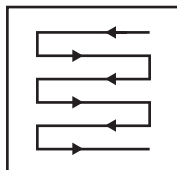

Fig. 21
5. Mow in slight overlapping rows. The most effective pattern for mowing lawns is straight lines along one of the sides. This will keep the rows even and ensures that all the lawn is cut without missing any spots (Fig. 21).
8. Empty the grass catcher (25) regularly.